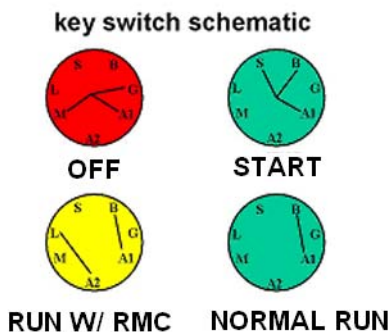

Figure 7.2
- 2a. In the **OFF** position, continuity can be found between the M, G, and A1 terminals. See Figure 7.2.